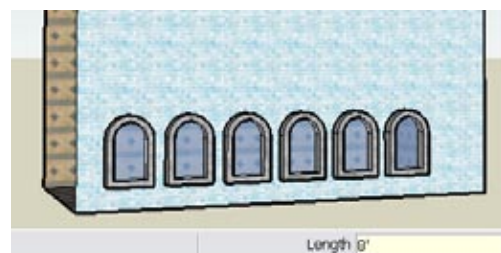

Figure 1-7
- To make the windows 8 feet apart, type  $8'$  and press Enter. (If your units are Architectural, you need to include the apostrophe for the foot symbol.) As you can see in Figure 1-7, this looks too crowded.